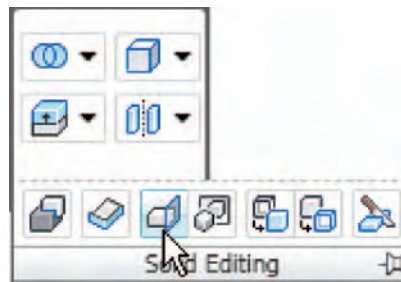

Fig. 14.26 The **Section Plane** tool in the **Home/Solid Editing** panel
4. Click the **Section Plane** tool icon in the **Home/3D Modeling** panel (Fig. 14.26). The command line shows: